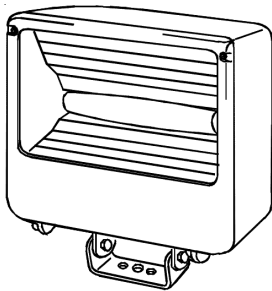

Figure 1
1. Mount floodlight to desired mounting hardware. (Figure 1).